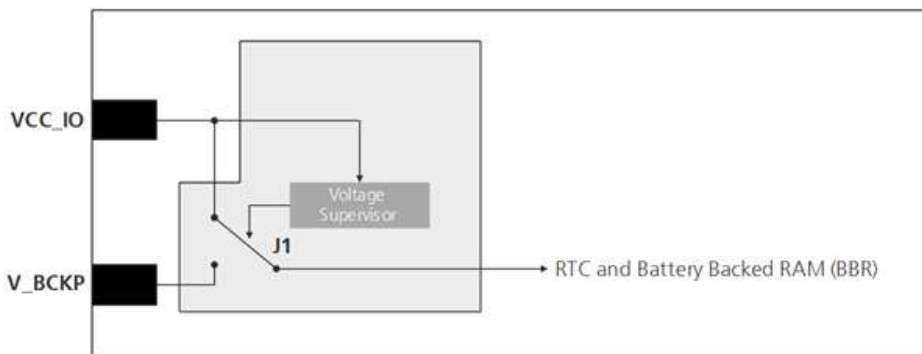

Figure 1: Backup battery and voltage
-  As long a supply is connected to **VCC\_IO** of SAM-M8Q antenna module, the backup battery is disconnected from the RTC and the BBR to avoid unnecessary battery drain (see Figure 1). In this case, **VCC\_IO** supplies power to the RTC and BBR. **V\_BCKP** supplies the RTC and BBR in case **VCC\_IO** voltage goes below 1.4V.